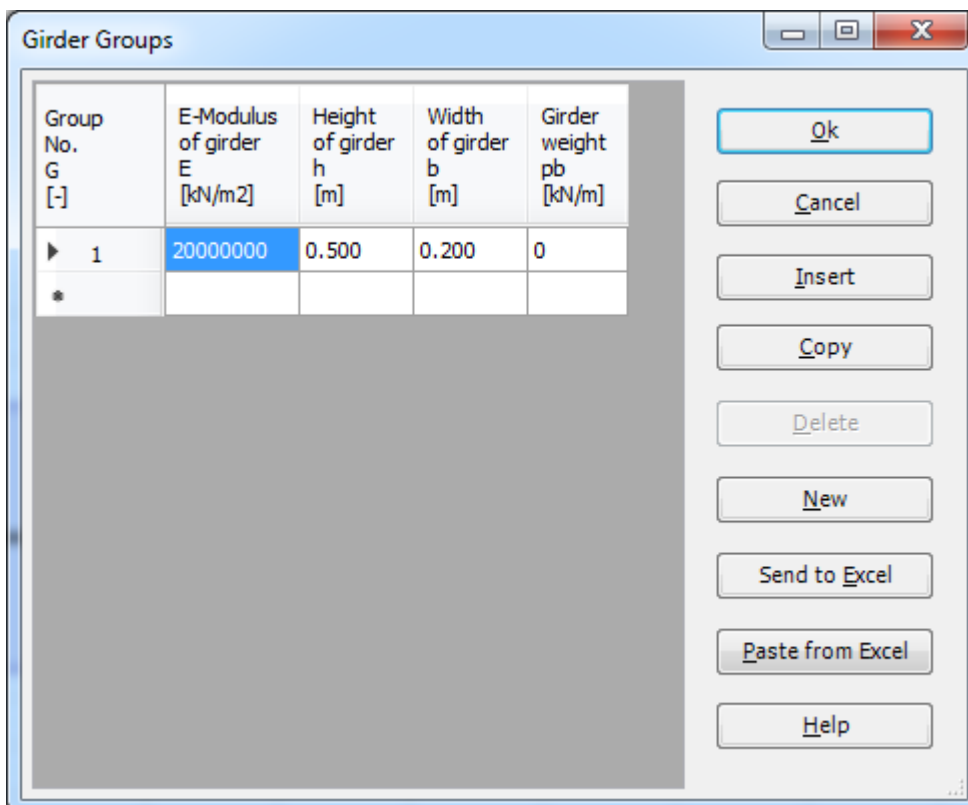

Figure 8.13 "Girder Groups" list box
After clicking "OK" button in the "Cross section definition" option box, the following list box in Figure 8.13 appears.
- Enter the material properties of the girder, cross-section dimensions and the girder weight as indicated in Figure 8.13. This is done by entering the value in the corresponding cell and press "Enter" button